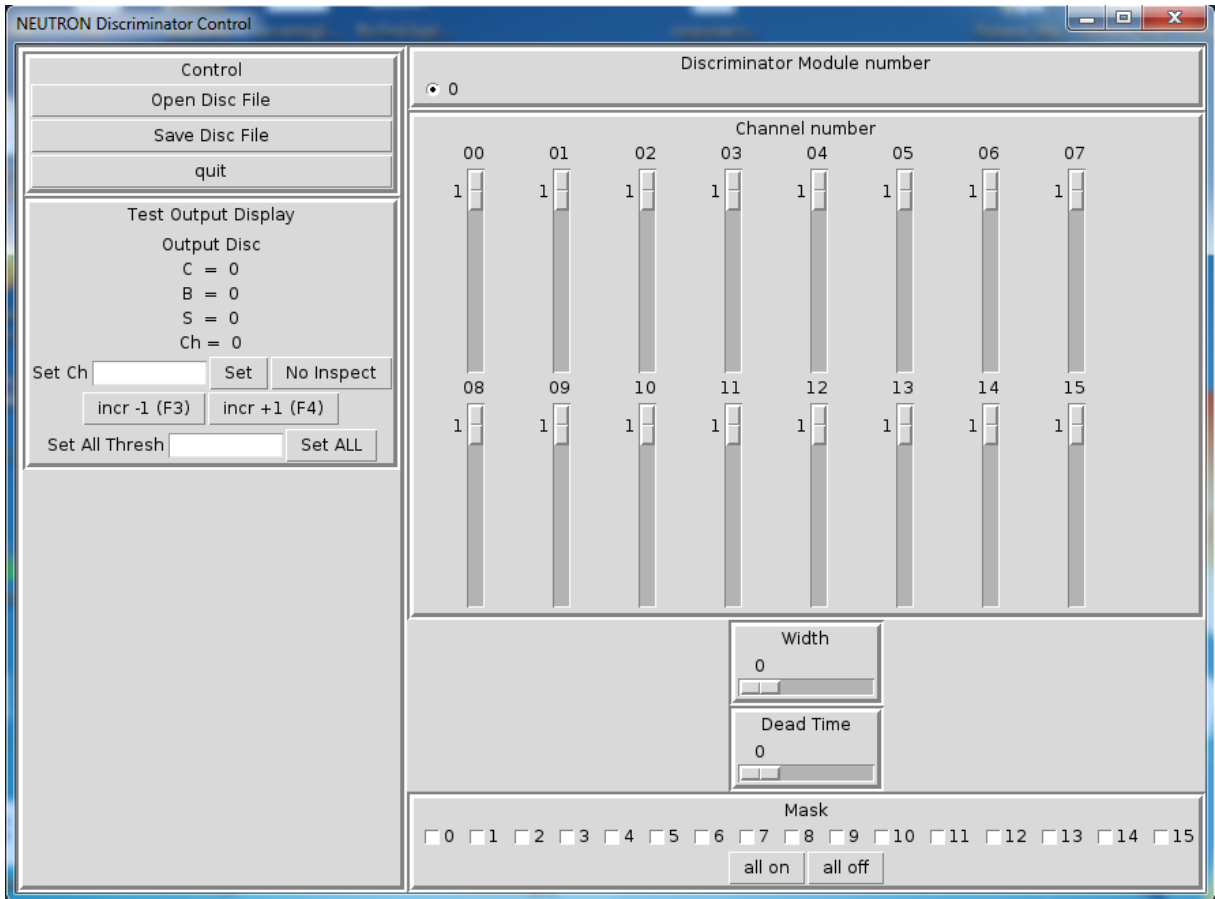

Figure 7: NW Discriminator GUI
2. Type wish lecroy\_cfd.tcl and a GUI should appear (see Fig. 7).